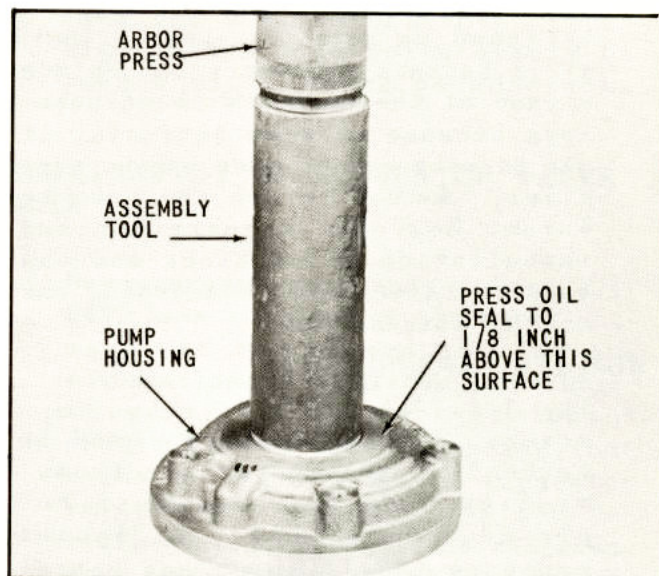

Fig. 102 Pressing Oil Seal
2. The pump assembly for the Model 72 transmission (71-A60) contains a different seal than the pump assembly with backing plate for the Model 72C (71-1A60). They are identical in all other respects. Therefore, when assembling the front pump assembly 71-A60 follow the information in (paragraphs 5-15) pages 41 to 44, with the exception that the seal should be pressed into the pump housing until front face of seal is 1/8 inch above front face of pump housing, (Fig. 102).